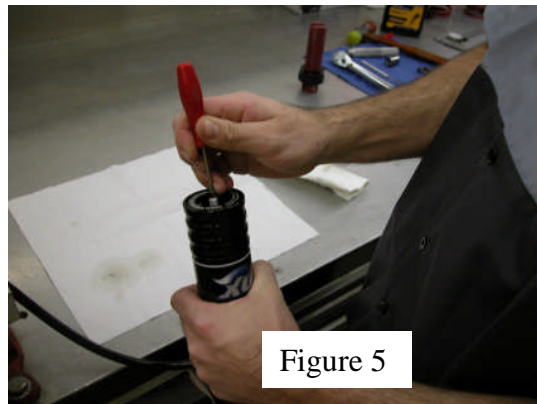

Figure 5
10. Using a blunt object, depress the air valve core to release pressure. **(Figure 5)**